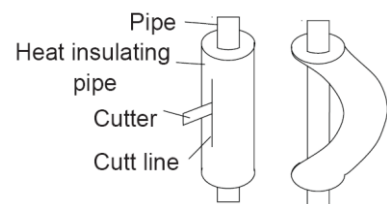

Figure 3-2-5
- (4) Cutter as shown in Figure 3-2-5, and bend it after exposing the pipe. After bending the pipe as you want, be sure to put the heat insulating pipe back on the pipe, and secure it with tape.